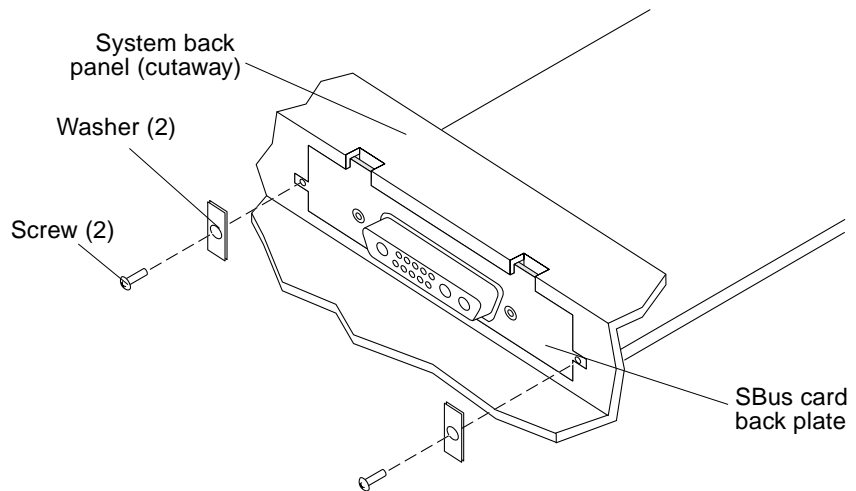

FIGURE 11-12 SBus Card Back Plate Screws and Washers
4. Remove the screws and washers from the SBus card back plate (FIGURE 11-12).